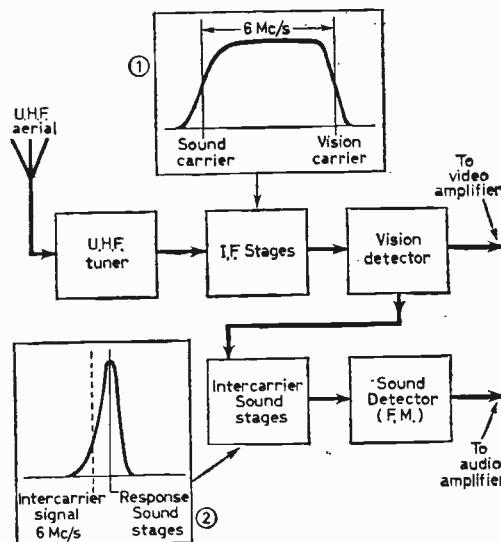

Fig. 4: Simple block diagram of a 625-line standard receiver, showing responses and signals.
On the 625-line standard, misalignment of the intercarrier sound channel can produce the symptom, but owing to the manner in which the circuits work it is generally referred to as *intercarrier buzz*. The corresponding block diagram (somewhat simplified) of the scheme is shown in Fig. 4. Here it will be seen that both the vision and the sound signals are purposely arranged to pass through the main i.f. stages and arrive together at the vision detector. This is possible because on this standard frequency-modulated sound is adopted, to which the vision detector is effectively insensitive. However, the detector does serve to intermodulate, so to speak, the sound and vision signals—modulating one upon the other—resulting in a new signal which has a frequency equal to the difference between the sound and vision signals. This difference is 6Mc/s, as shown in (1) on the diagram.